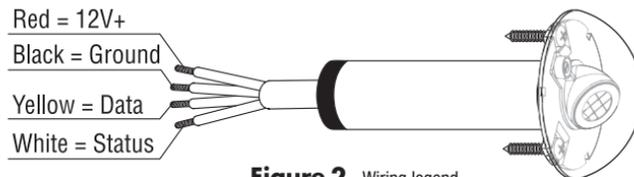

Figure 2 Wiring legend
3. *Run the CS120’s IR cable. Label the cable for future reference (Figure 2). The CS120 is supplied with 10’ of pre-stripped IR cable. The IR cable may be shortened or lengthened as needed. If you want to make the CS120’s cable shorter, use a pair of wire cutters to cut the cable to the desired length. The IR cable may be lengthened*